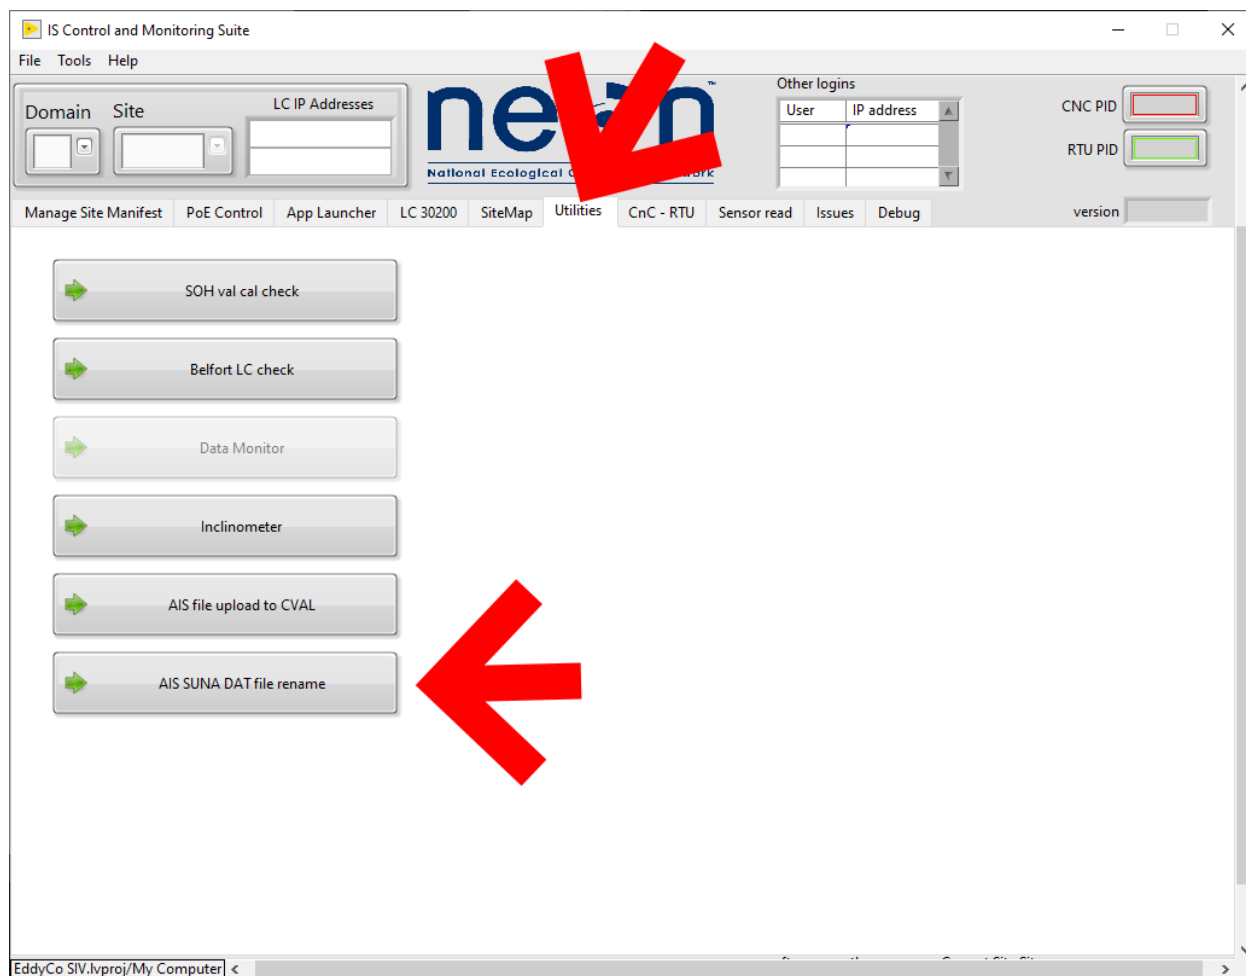

Figure 9. Select the “Utilities” tab and click on “AIS SUNA DAT file rename” button
3. Select the “Utilities” tab and click on “AIS SUNA DAT file rename” button (Figure 9).